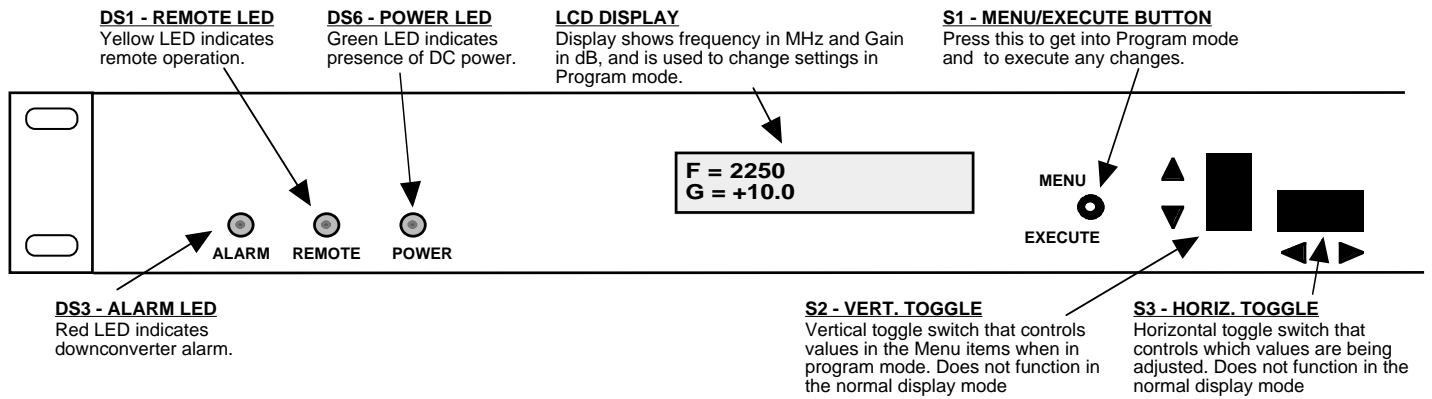

FIGURE 2.3 2016-25 Front Panel Controls and Indicators
6. Be sure DS6 (green, DC Power) is on and DS2 (red, Alarm) is off (Figure 2.3).
7. **AC Fuse** - The fuse is a 5 mm X 20 mm, 2 amp slow blow (Type T) and is inserted in the far slot in the drawer below the AC input as shown in Figure 2.3. There is a spare fuse in the near slot. If a fuse continues to open, the power supply is most likely defective.